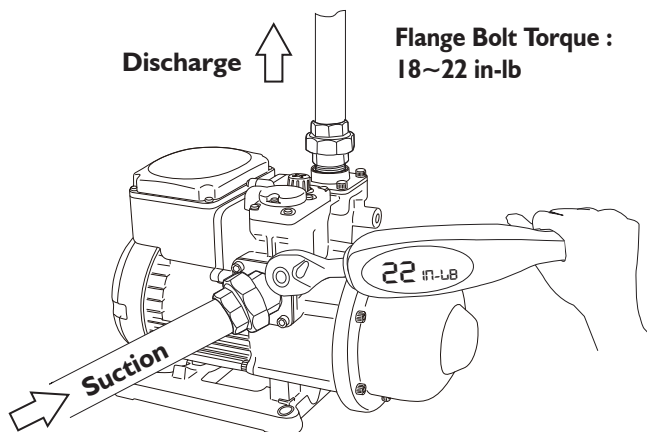

Fig. 3
6. Connect the suction pipe to the side and discharge pipe on the top.( See Fig 3 )